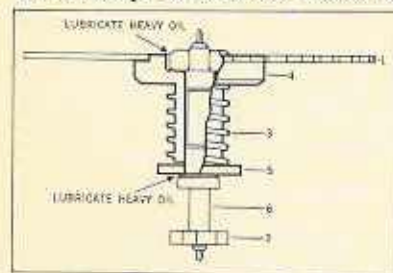

Figure 10
Instead, the third wheel provides the clutch, or slippage action. Figure 10 shows the construction of this wheel in detail. The arbor (6), bearing the pinion (2), is free to turn independently of the wheel (1). The wheel is riveted to the wide head of a long tube (4) which fits loosely over the arbor. A spring (3), held in place by a washer (5), provides tension. This spring is calibrated, factory adjusted, and lubricated to supply the exact amount of clutch action for manual turning of the hands. Yet
and the wheel. If the wheel is cleaned in a solution, lubricate this afterwards as indicated in *Figure 10*.